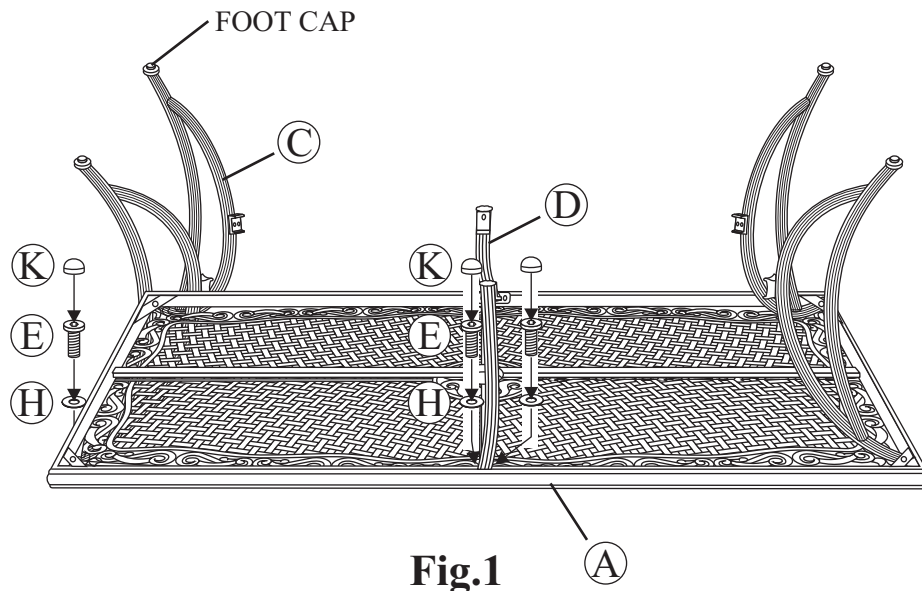

Fig.1
Place the table top upside down on a flat, non-abrasive surface. Attach table leg to table top by using a 1/4"x20 mm bolt and a washer as shown in **Fig.1**. Place the leg beneath the table rim corner bracket. Guide the bolt through the hole in the table rim and into the pre-drilled hole in the table leg. **Hand tighten only.** Repeat for the other three legs. Attach the topside support to the table top by using two 1/4"x20 mm bolts and washers as shown in **Fig.1**. **Hand tighten only.** Repeat for the opposite side.
Step 3: Important: We recommend 2 people work together to assemble the chair. Note the arrow labels on the "U" bar and the rocker assembly. Also note the horseshoe shape of the rocker plate. Point the open end of the horseshoe away from you. The arrows on the rocker assembly should be pointing towards you. Set the chair frame on the rocker assembly with front of the seat facing you and the arrows on the "U" bar pointing towards you as shown in *Figure 1*. This is very important for a safe, balanced rocking motion. **If chair frame has been properly positioned on the rocker assembly, all arrows on the "U" bar and rocker assembly will be pointing in the same direction.**
Step 4: Critical Step: The "U" metal plates must be installed in the proper location. Read this step and carefully examine. Insert the "U" metal plate, so that the "U" bar and rocker plate are between both sides of the "U" metal plate. Make sure that the holes in the "U" metal plate are completely aligned with the holes in the "U" bar as shown in *Figure 1*. Guide the bolts through the holes on the top side of the "U" metal plate, through the holes in the "U" bar portion of the chair, through the holes in the rocker plate and then, most importantly, through the holes in the bottom side of the "U" metal plate. It is very important that the holes in the bottom portion of the "U" metal plate be placed directly beneath the holes in the rocker plate. Add a spring washer and a nut to each bolt as shown in *Figure 2*. **Hand tighten nuts 3-4 revolutions only.** Repeat the same procedure on the other side.